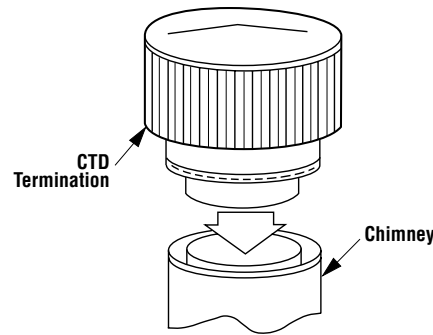

Figure 30
1. Hold the FBTM over top of last chimney section (Figure 30).